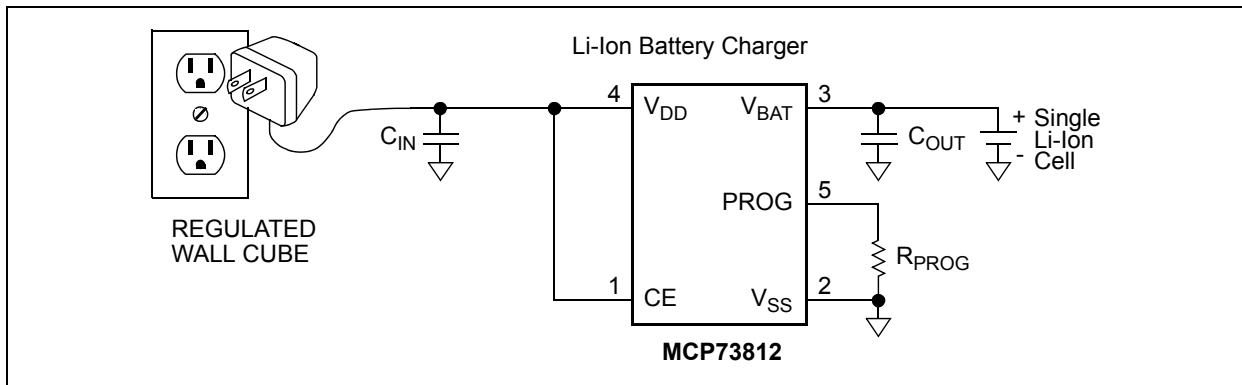
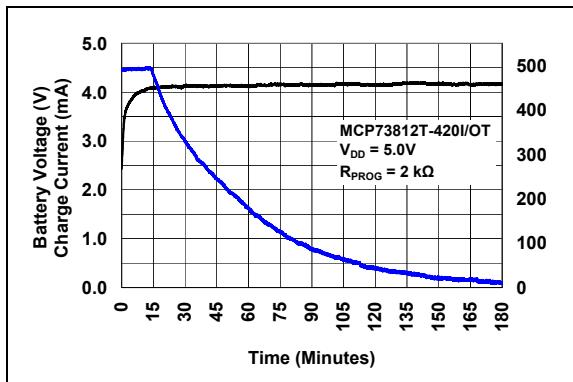

FIGURE 6-1: Typical Application Circuit.
FIGURE 6-2: Typical Charge Profile (950 mAh Li-Ion Battery).
charge algorithm for Lithium-Ion and Lithium-Polymer cells. Constant-current followed by Constant-voltage. Figure 6-1 depicts a typical stand-alone application circuit, while Figures 6-2 depict the accompanying charge profile.
Selection of the external components in Figure 6-1 is crucial to the integrity and reliability of the charging system. The following discussion is intended as a guide for the component selection process.
5. Replaced Figure 6-2 with new plot and changed figure caption.